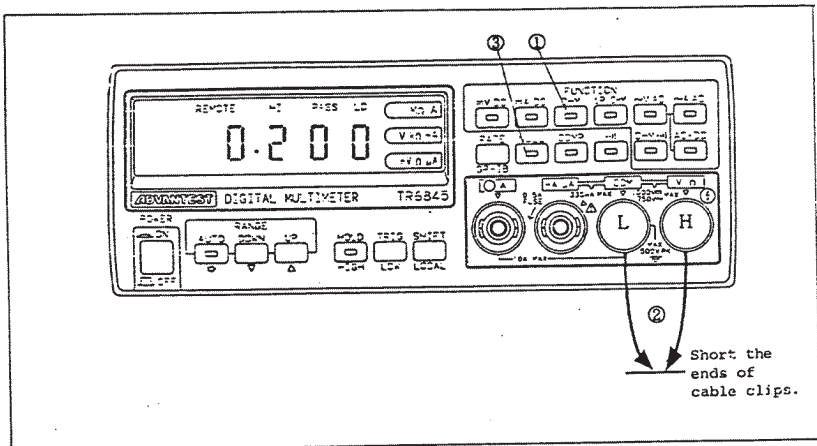

Figure 4-4 Measurement of Resistance and NULL Calculation
- Step ① Press $\left[\overset{OHM}{\square} \right]$ to select the resistance measuring function. (LED lights.)
- Step ② Connect the HI end of input cable to $V_{\Omega}^{\circ}C$ terminal, and LO end to COM terminal, as shown in Figure 4-4. Contact both cable clips for shorting. An offset value including the cable conductor resistance is displayed as shown below.